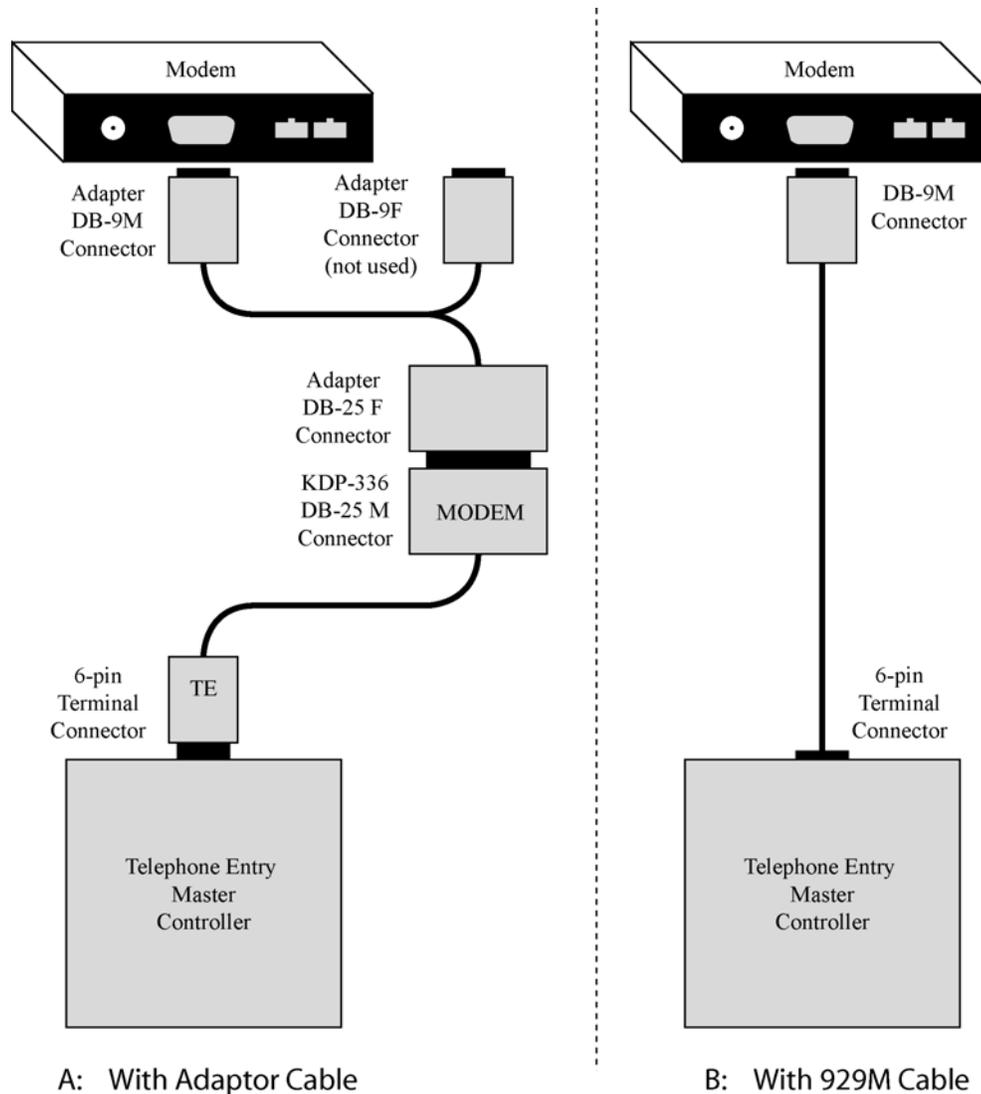

Figure 19: Modem Cable Connection
- If the modem was purchased from Keri Systems, it comes with an adapter that accommodates a female DB-9 connector (should the modem have a DB-9 instead of a DB-25 connector). Use this adapter cable in conjunction with a KDP-336 cable to make the modem/controller connection. See Figure 19 on page 17.
- An adapter cable is provided, when needed, with a modem purchased from Keri Systems. Connect the adapter cable between the modem and the KDP-336 cable as shown in side A of Figure 19.
- To use the KDP-929M cable see side B of Figure 19.